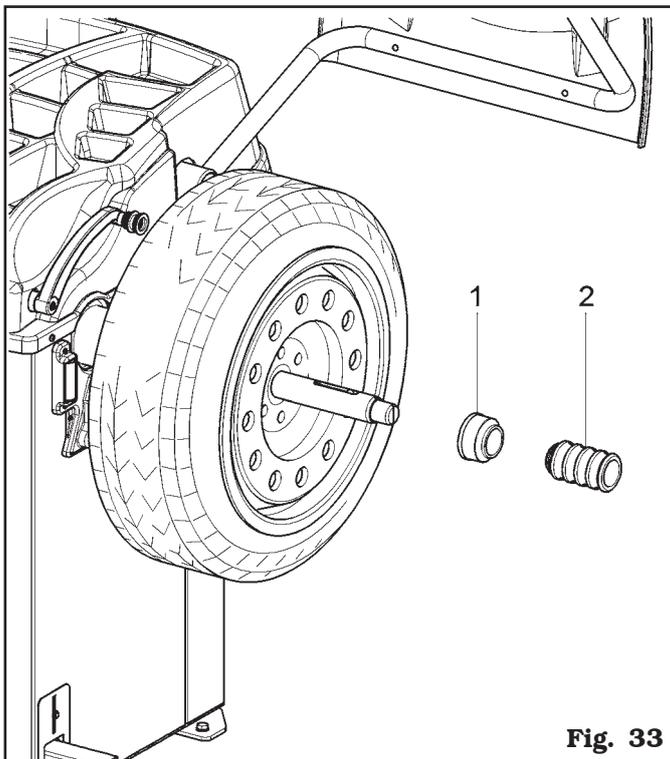

Fig. 33
4. Fit the protection cap (**Fig. 33 ref. 1**) in the bush (**Fig. 33 ref. 2**) and bring everything against the wheel.